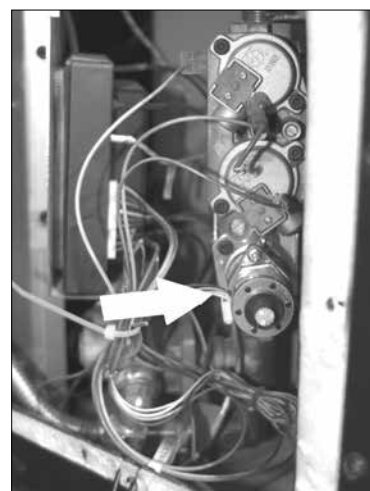

**Figure 57: Removing Access Cover.**
13. Remove the Valve Access Cover by removing all ten (10) T-20 screws (Figure 57).